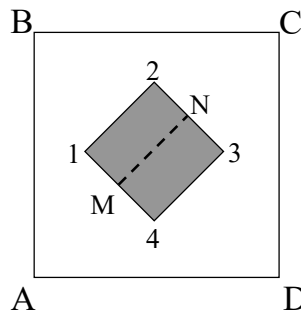

Figure 3
- e) Given the stress state of the element 1234, apply the generalized Hooke's law to calculate the strain, ϵ , experienced by the line MN in Figure 3, depending on the modulus of elasticity, E , and Poisson's ratio, ν , of the material.